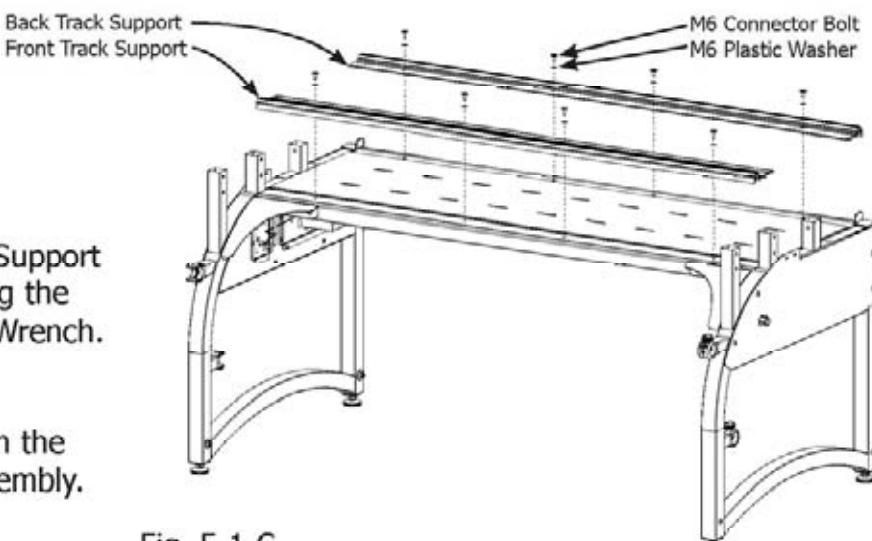

Fig. 5-1-C
**5-4-C:** Loosely fasten the Front Track Assembly and securely fasten the Back Track Assembly onto the Table Assembly with Connector Bolts and M6 Plastic Washer. The Rear Track Assembly side should be flush with the back edge of the table. (Fig. 5-1)